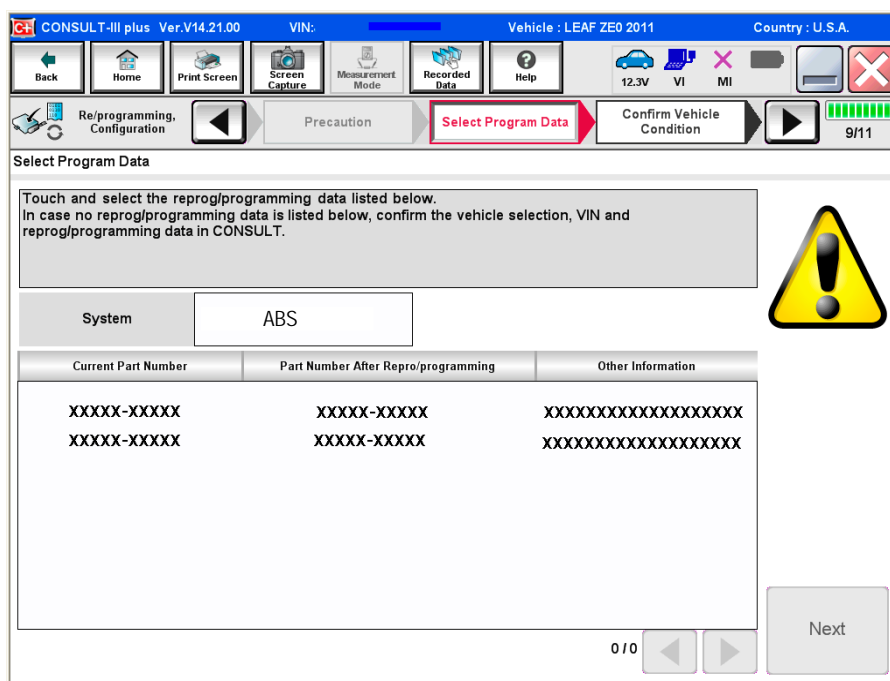

Figure 10
- In this case, the screen in Figure 10 will display.